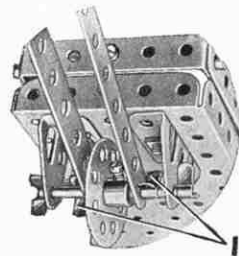

Fig. O.4a
The 5 1/4" Strips forming the handle are placed one on each side of a Bush Wheel on the front axle, and they are held in place by Spring Clips (1), as shown in Fig. O.4a.